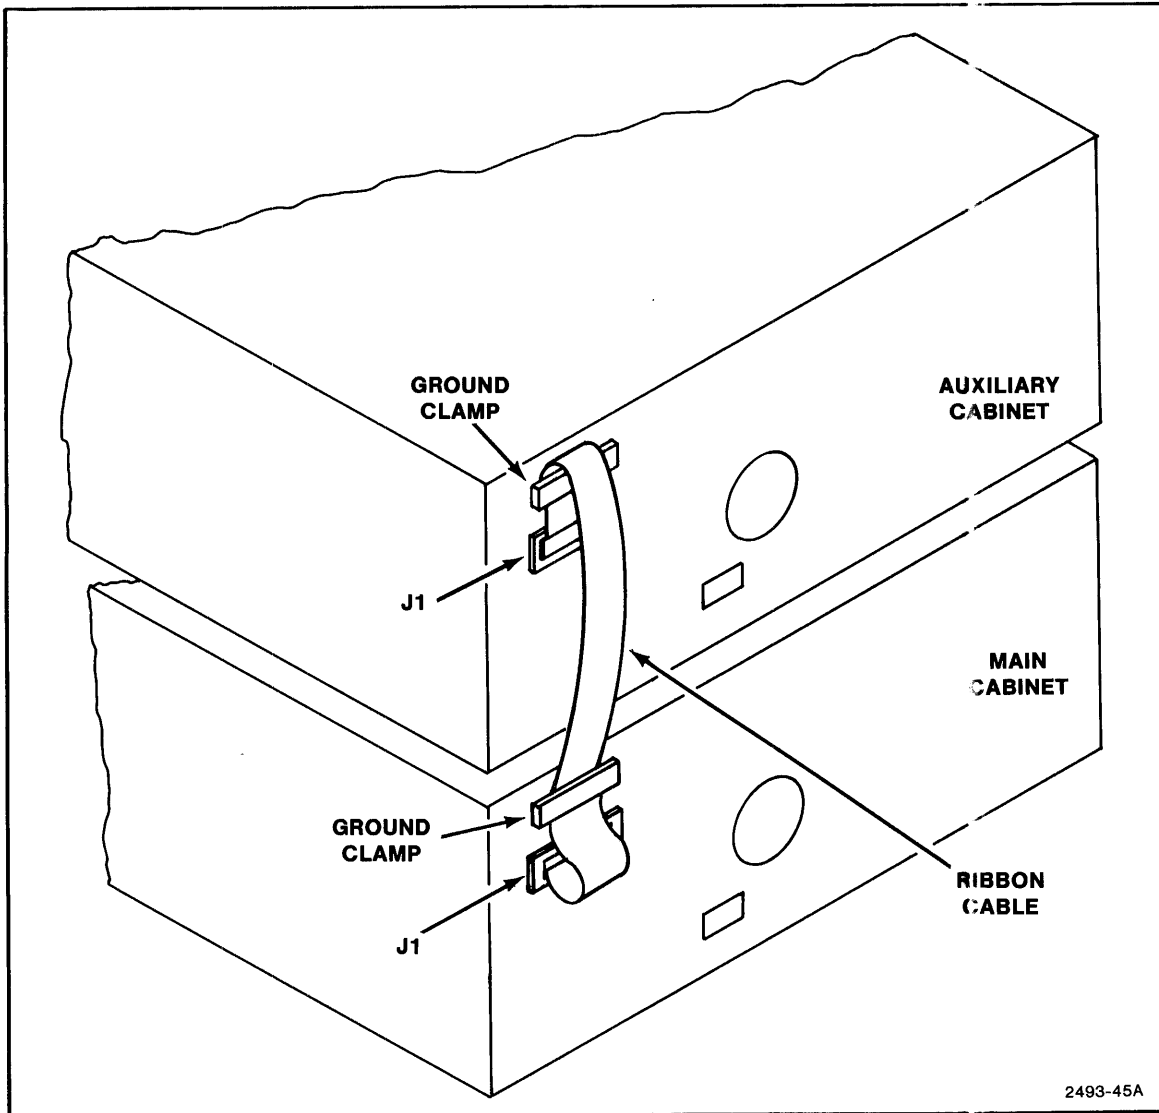

Figure 3-15. Plugging ribbon cable to connector J-1 on main and auxiliary cabinets.
Pin 1 of the cable is positioned to the left on both cabinets. This will position the ground braid out and the cable will be looped over at the top cabinet. Refer to Figure 3-15.
3. Install the ground clamps on each of the cabinets so that they trap the ribbon cable between the back of the cabinet and the clamp at the exterior ground strip on the ribbon cable. Tighten the screws securely, but do not overtighten. Refer to Figure 3-15.